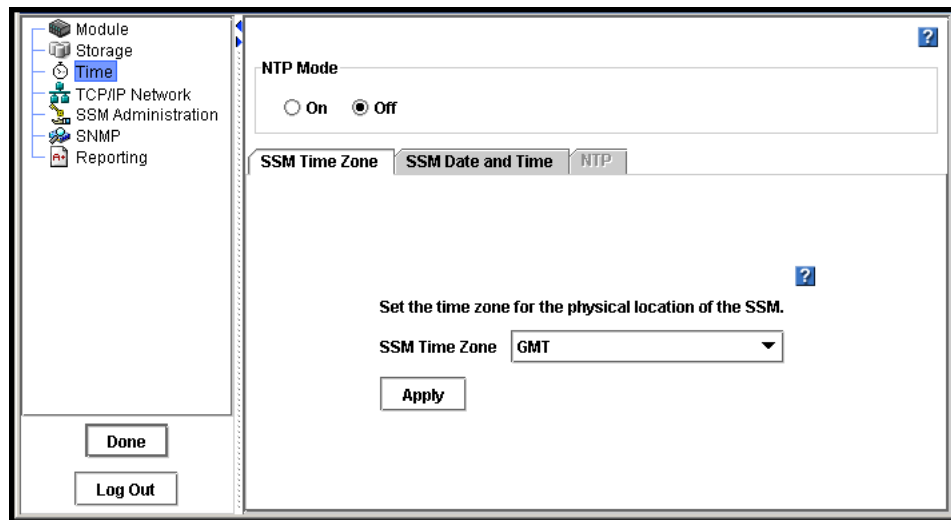

Figure 91. Setting the Time Zone
2. Select Time from the SSM configuration categories. The Time window opens, shown in Figure 91.